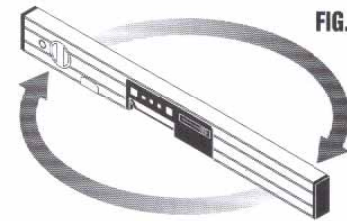

FIG. 4
Step 4: Rotate SMARTTOOL™, still upside down, end-for-end on the flat surface with the display now facing away from you. Wait 10 seconds. Push and hold the CALIBRATE button for 2 seconds until CAL2 appears on the display. (see fig. 4)